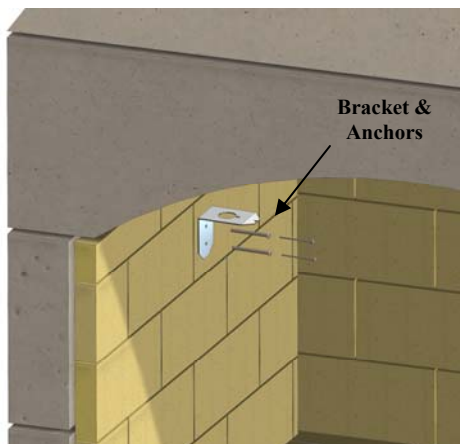

Figure 27. Install Bracket & Anchors
C. Install bracket towards the front of the firebox wall, about 20 inches above the firebox floor. The bracket will capture the damper operating cable. Use a 1/4" masonry bit to avoid cracks in the firebrick. See Figure 27.